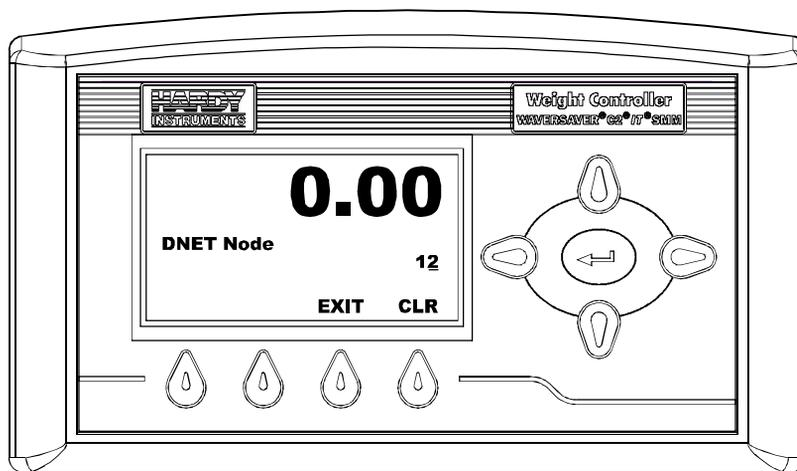

FIG. 120 DNET NODE MENU
Step 9. Press the Enter button. The DNET Mode Menu appears. (See Fig. 120)